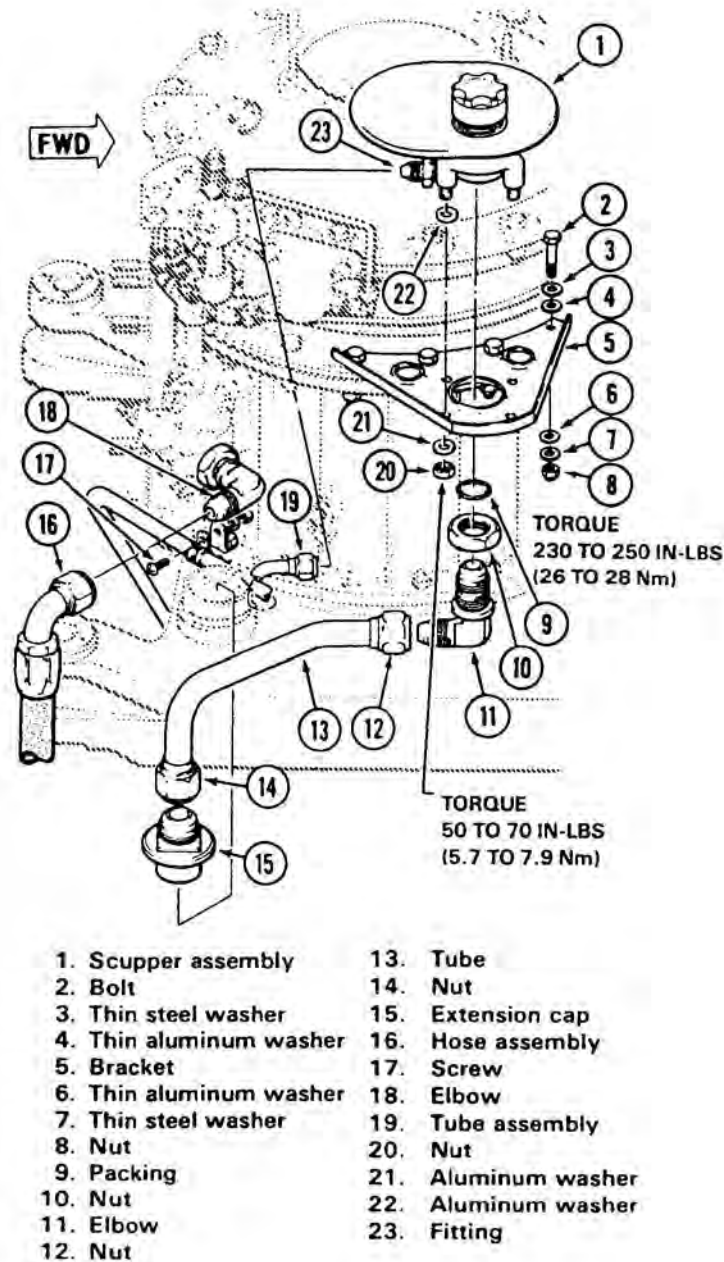

Figure 63-40. Filler Neck, Scupper and Mounting Bracket
- 63.5.23.1.1 Disconnect hose (16, Figure 63-40).
63.5.23.3.1 Inspect scupper (1, Figure 63-40) and oil filler cap for cracks and distortion or other damage rendering either component unserviceable. A loose fitting cap and/or cracked or distorted scupper is not acceptable. Unserviceable components shall be replaced. Superficial damage such as dents, nicks, or scratches not affecting serviceability are acceptable without repair. Light surface corrosion is acceptable provided it is removed and original
63.5.23.4.1 Install washers (22, Figure 63-40) on scupper assembly (1). Position scupper assembly (1) on bracket (5).